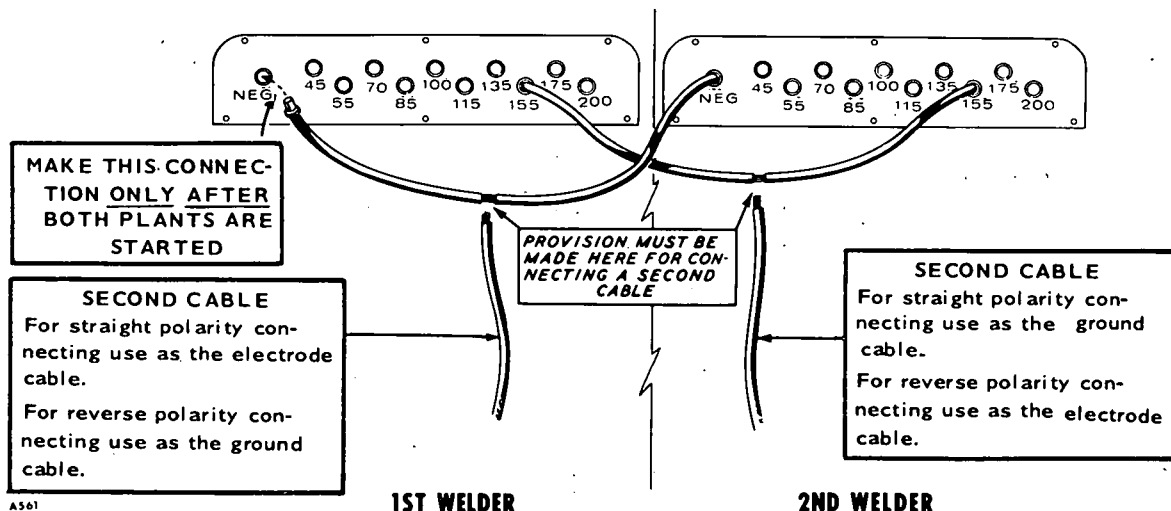

FIGURE 7. CONNECTIONS FOR WELDING IN PARALLEL
2. Connect a cable between the preselected identical amperage jack receptacles of the welders. This cable (Figure 7) must have some means of attaching a second cable by splicing, clamping, etc. which will insure a tight connection.